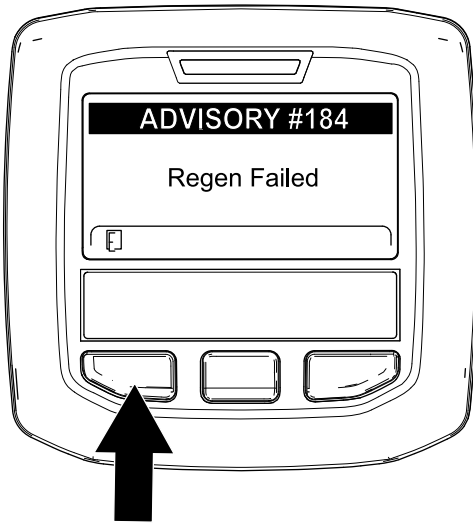

Figure 63
**Note:** If the regeneration fails to complete, the InfoCenter displays Advisory #184 (Figure 63). Press the left button to exit to the home screen.